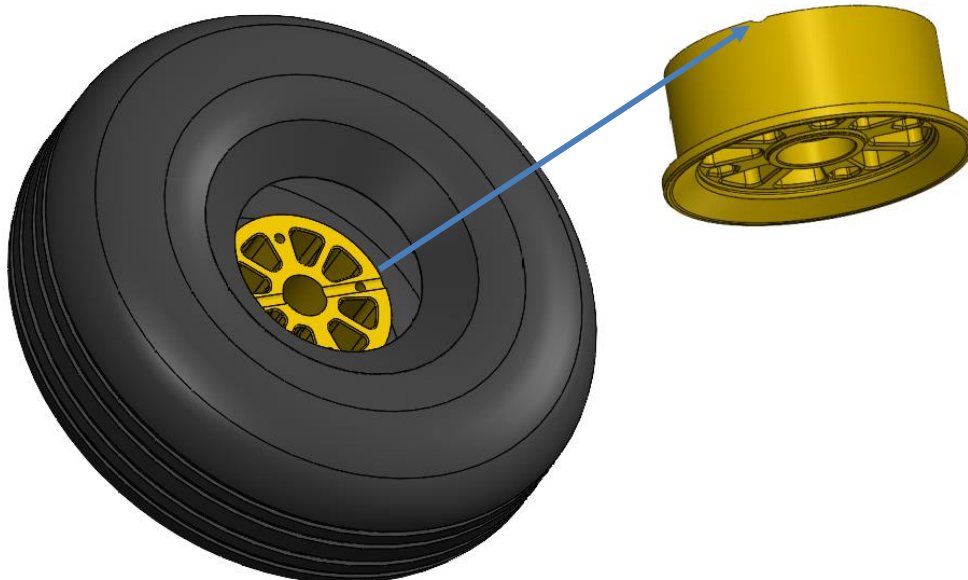

Figure 21
- e. Place the wheel in the hydraulic press and apply force to the spacer plate to detach the rim from the tire, until the rim is completely removed from the tire. As shown in Figure 21.
- a. Position the rim on the bench so that the smallest portion of the chamber valve passage diameter is below. See Figure 21.